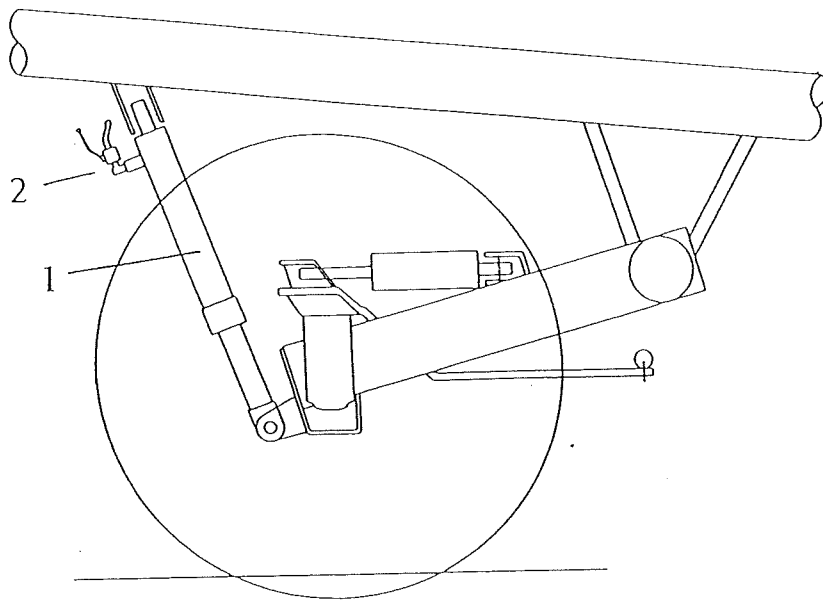

Fig 7.3
The right hand wheel is mounted on a pivoting axle beam and connected to the main chassis by an hydraulic cylinder (fig 7.3 item 1). Extending the cylinder will raise the chassis while closing the cylinder will lower the chassis on that side. The cylinder is controlled by a joystick on the drivers switch control box (see section 4). Ensure transport lock is in the open position for work (fig 7.3 item 2).